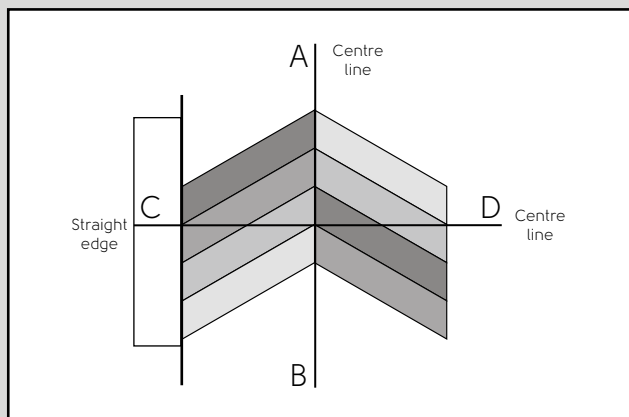

Fig. 1
2. Dry lay the chevrons as shown in either (Fig. 1) or (Fig. 2) which ever gives the best appearance – one will work better than the other at the room perimeter.